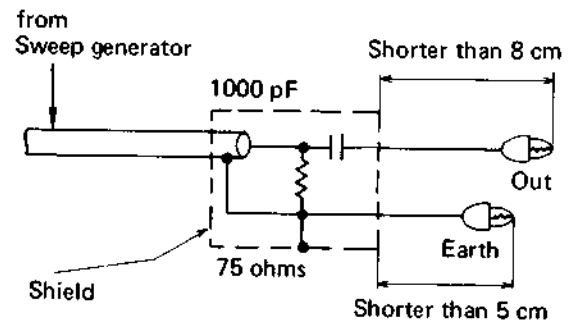

Fig. 3-1A Sweep signal supply cable
- 8) VIF and SIF adjustment probes (Fig. 3-1A)